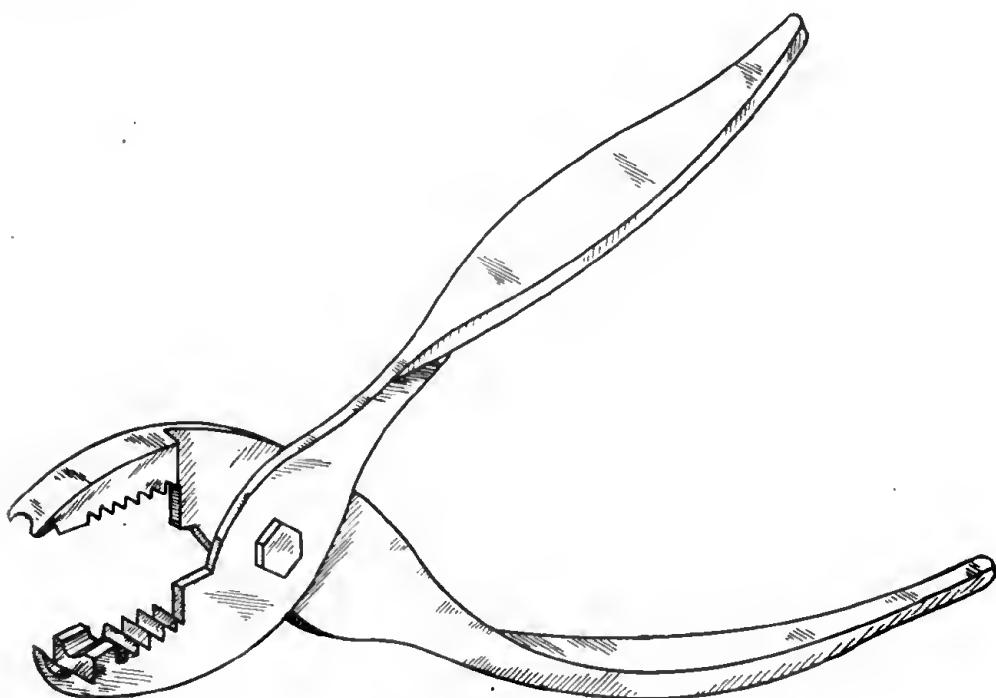

Figure 171. Screw-holding pliers.
e. SCREW-HOLDING PLIERS. Screw-holding pliers, used to start riv-nut screws, may be made by filing an ordinary pair of pliers as shown in figure 171.